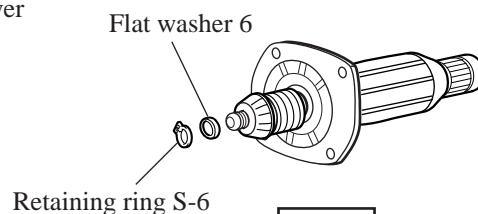

Fig. 2C
- (4) Assemble flat washer 6. And then, fix the parts on armature shaft with retaining ring S-6 as illustrated in fig. 2C.